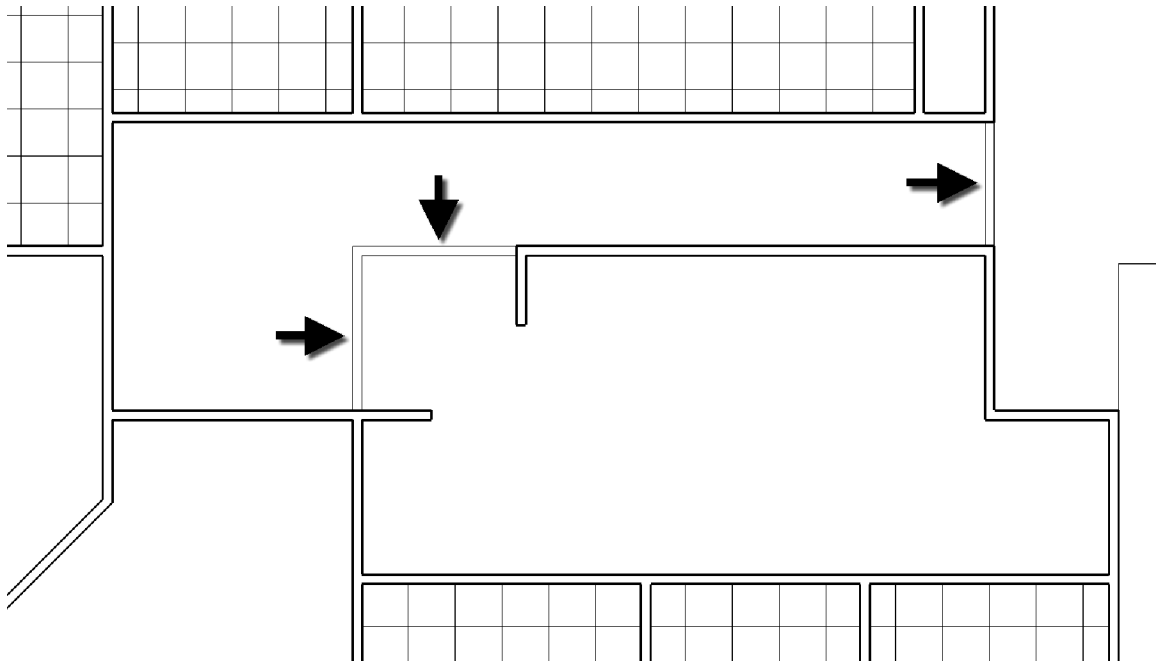

FIGURE 7-4.12 Bulkhead modeled
28. In the *Properties Palette*, set and the Base Offset to **7'-10"**. *This will put the bottom of the wall to 7'-10" above the current floor level, Level 1 in this case* (Figure 7-4.12).
30. **Draw the bulkhead**; make sure you snap to the adjacent walls (Figure 7-4.12).